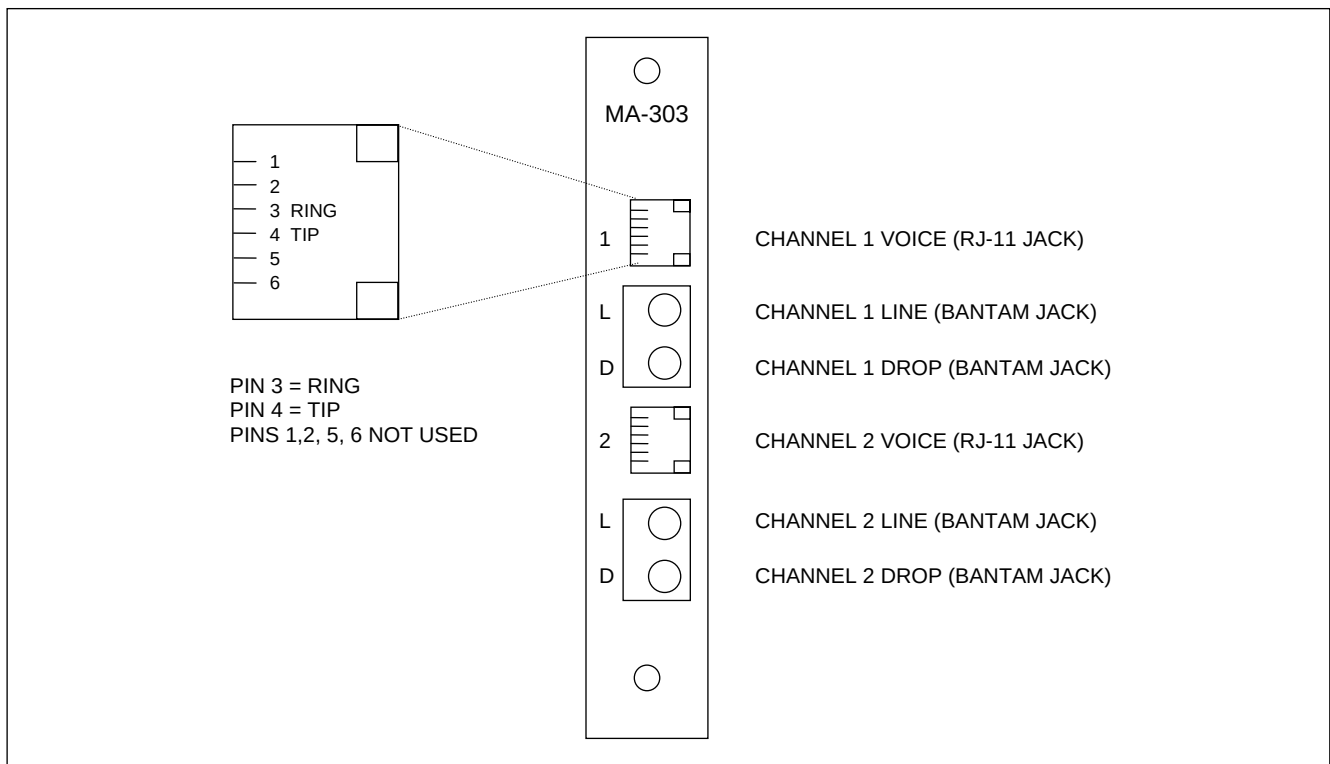

Figure 3. MA-303 Module Adapter, used with all RFL VF-16B station end modules. The MA-304 Module Adapter is similar in appearance.
The MA-303 Module Adapter is designed for use with all RFL VF-16B station-end modules. Each MA-303 provides two RJ-11 jacks for connection to the voice circuits for channel 1 and channel 2, and two bantam jacks (Line and Drop) for each channel. (See Figure 3.) Each Line jack provides access to the equipment from the line side, and each Drop jack provides access to the line from the equipment side.
- If an MA-303 or 304 Module Adapter is being used, plug the RJ-11 (voice) connectors into the appropriate jack. Connect to the bantam jacks for the LINE and DROP channels as shown in Figure 3.